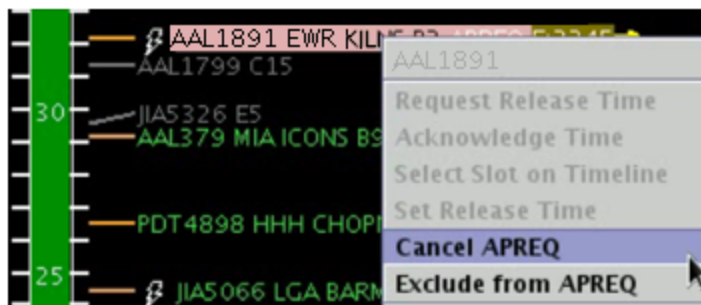

Figure 166. Cancel an APREQ.
**Step 2:** Select "Cancel APREQ" (Figure 166).